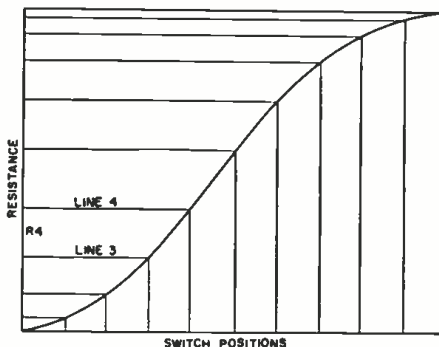

Fig. 2. Graphical method of construction.
Graphical methods of construction are as follows (see Fig. 2). (1) Draw a graph of resistance (ordinate) as a function of degrees rotation or switch positions (abscissa); (2) At each switch position or degree index, draw vertical lines up to the resistance curve; (3) At the intersection of each vertical line and the resistance curve, draw horizontal lines to the resistance scale on the left. The actual resistance value is found by subtracting one resistance value from the other, thus the fourth resistor value equals Line 4 resistance minus Line 3 resistance (see Fig. 2).; (4) Reversing the order of resistor positions on the switch will reverse the taper of the switched-resistor control (this assumes that clockwise rotation produces increasing resistance for the normal unit).